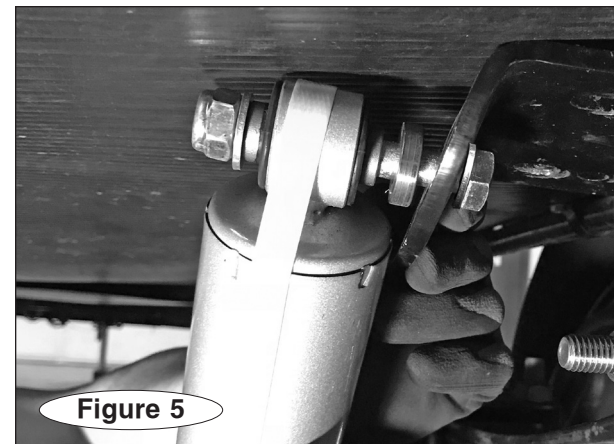

Figure 5
6. Position a washer (#5) over a bolt (#6) and bolt through the center hole of the frame bracket (#10), spacer (#9) and the top of the shock (Figure 5).